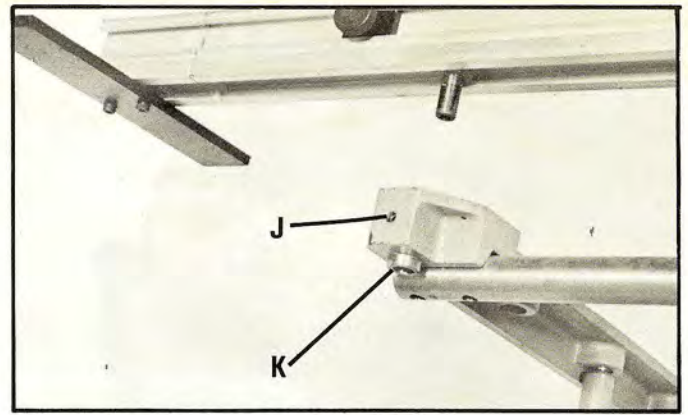

Fig. 47
1. Loosen set screw (J) Fig. 47, at the left end of the sliding table extension.
2. Turn eccentric (K) Fig. 47, using an open end wrench on the wrench flats, until cross-cut fence is square with the saw blade. If additional adjustment is necessary, adjust the eccentric at the right end of the table extension in the same manner.
3. Tighten set screw (J).